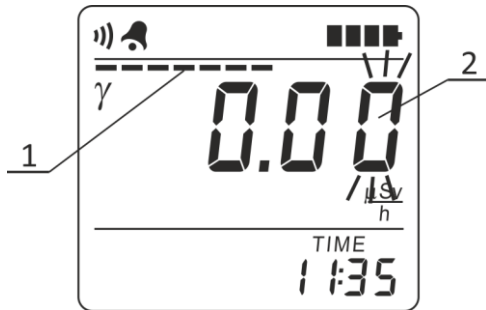

Figure 2.5 – LCD of the radiometer
2.3.3.6.22 If you keep holding down THRESHOLD button, then during the next four seconds the radiometer proceeds to the submode of viewing and programming the new values of the alarm threshold level and specified limit of statistical deviations (Figure 2.5). A stripe (1) “moving” across the instantaneous value indicator and a blinking low-order digit (2) of a new threshold level serve as an indication of this submode. After that release THRESHOLD button.